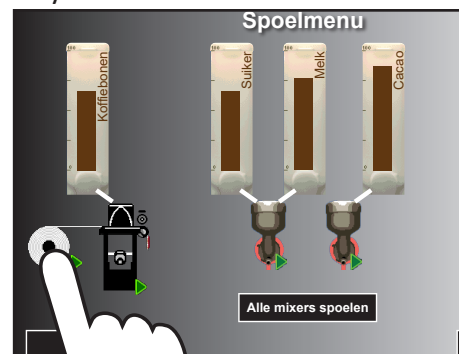

Figure 40. Rinse menu: filter paper
5. In the Rinse menu, press on the roll with filter paper (see Figure 40). The brewer mixing bowl will come back down and sandwich the filter paper.
13. In the Rinse menu, press on the roll with filter paper. The brewer mixing bowl will raise up (see Figure 40).